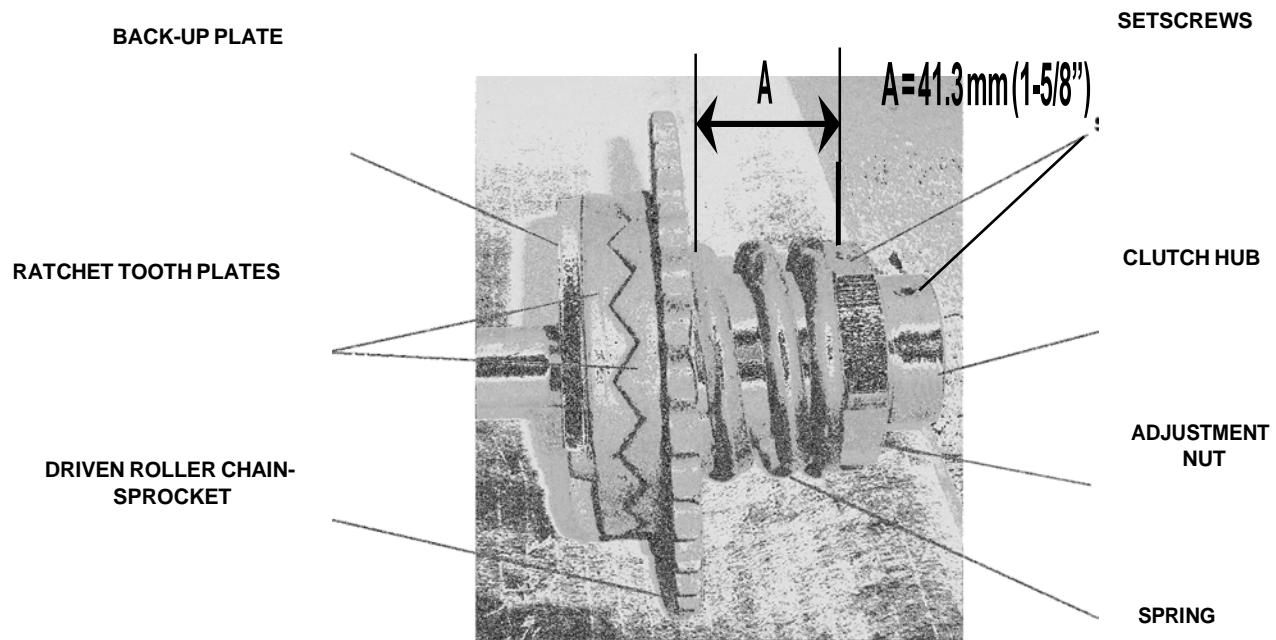

Figure 4. Ratchett Slip Clutch
This unit is preset at Jorgensen Conveyors, and should only require resetting if clearing the overload does not stop the ratcheting. Refer to Figure 4 and proceed as follows, for either the first stage and/or second stage as appropriate:
**NOTE:** The ratchet slip clutch is preset at Jorgensen Conveyors to 1-5/8" (41.3 mm) (A, Figure 4). Do not compress the spring to anything less than 1-1/2" (38.1 mm) as this will disable the clutch.